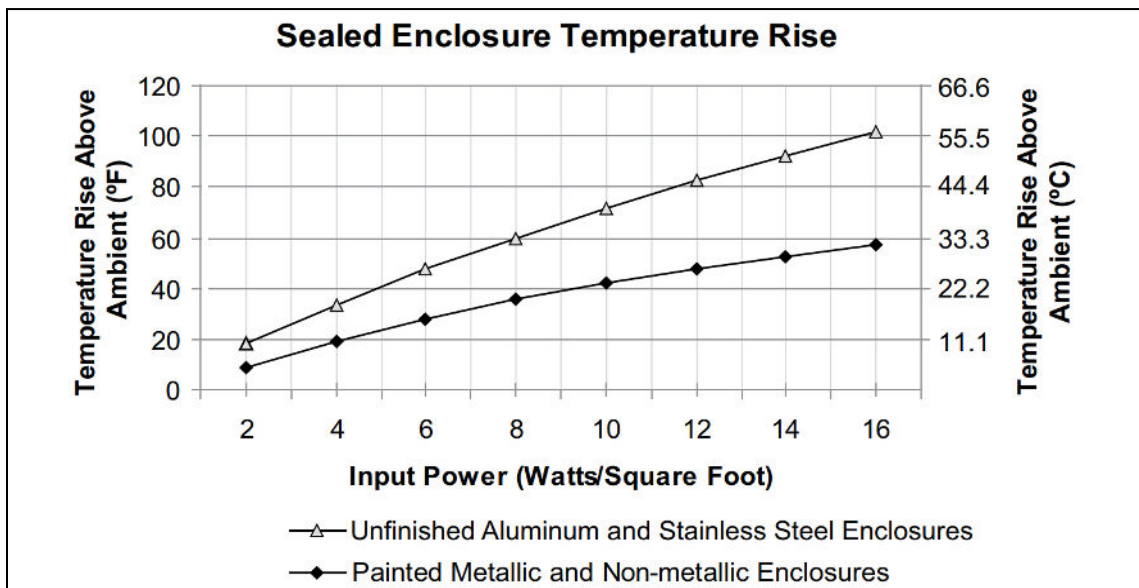

Figure 3. Sealed Enclosure Temperature Rise vs. Power Dissipation
A graph is provided in Figure 3 (originally sourced from a technical briefing published by Hoffman Enclosures Inc.) for determining the internal air temperature rise of a simple sealed enclosure with internal heat generation.
- Calculate the total surface area of all heat dissipating surfaces of the enclosure. Be sure to convert units to feet to correspond with the graph in Figure 3. The basic formula for calculating the area of a six sided enclosure is:
- Using the graph in Figure 3, determine the temperature rise of the internal enclosure air over ambient (outdoor) temperature ( $\Delta T_{\text{AIR RISE}}$ ).